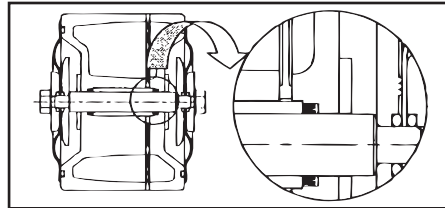

Figure 29
- The open side of the V faces toward the diaphragm(air chamber).(See Figure 29)